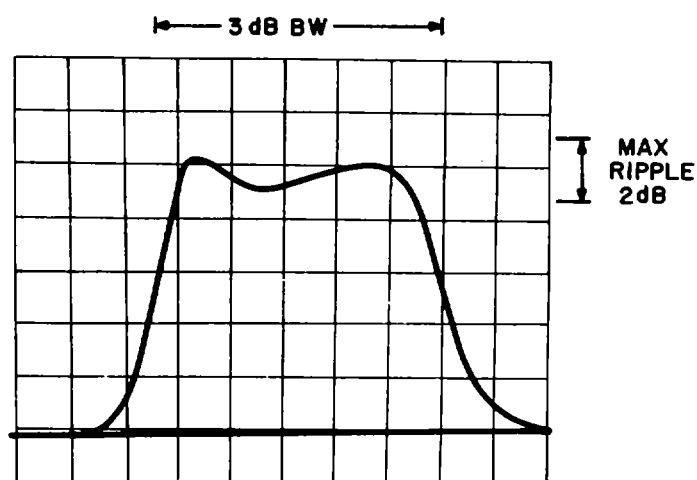

Figure 4-21A. Type 724006-4IF Amplifier, Typical Response
7. For the Type 724006-X IF Amplifiers, adjust C15 for the best overall response, as illustrated in **Figure 4-21A**. Adjust R3 to set the response amplitude equal to within ± 1 dB of the reference set in step 5. Connect the DVM between connector pin 12 and ground and adjust R19 to provide the proper IFBW code as indicated in **Table 4-18**.